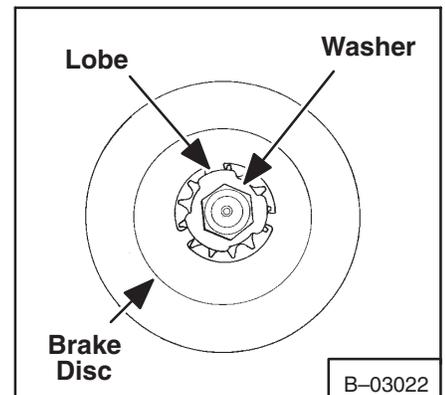

Fig. 4-10 Holding Brake Disc
10. Install the brake disc over the sprocket and turn it until the lobes on the disc are behind the lobes on the retaining washer (Fig. 4-10).
To install new brake/puck assembly (Fig. 4-10):